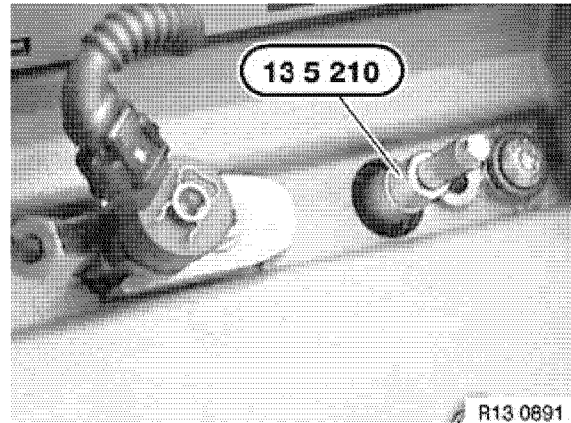

Figure 6-14
7. Insert brush and sleeve into injector cavity until it touches the bottom (**Figure 6-14**).